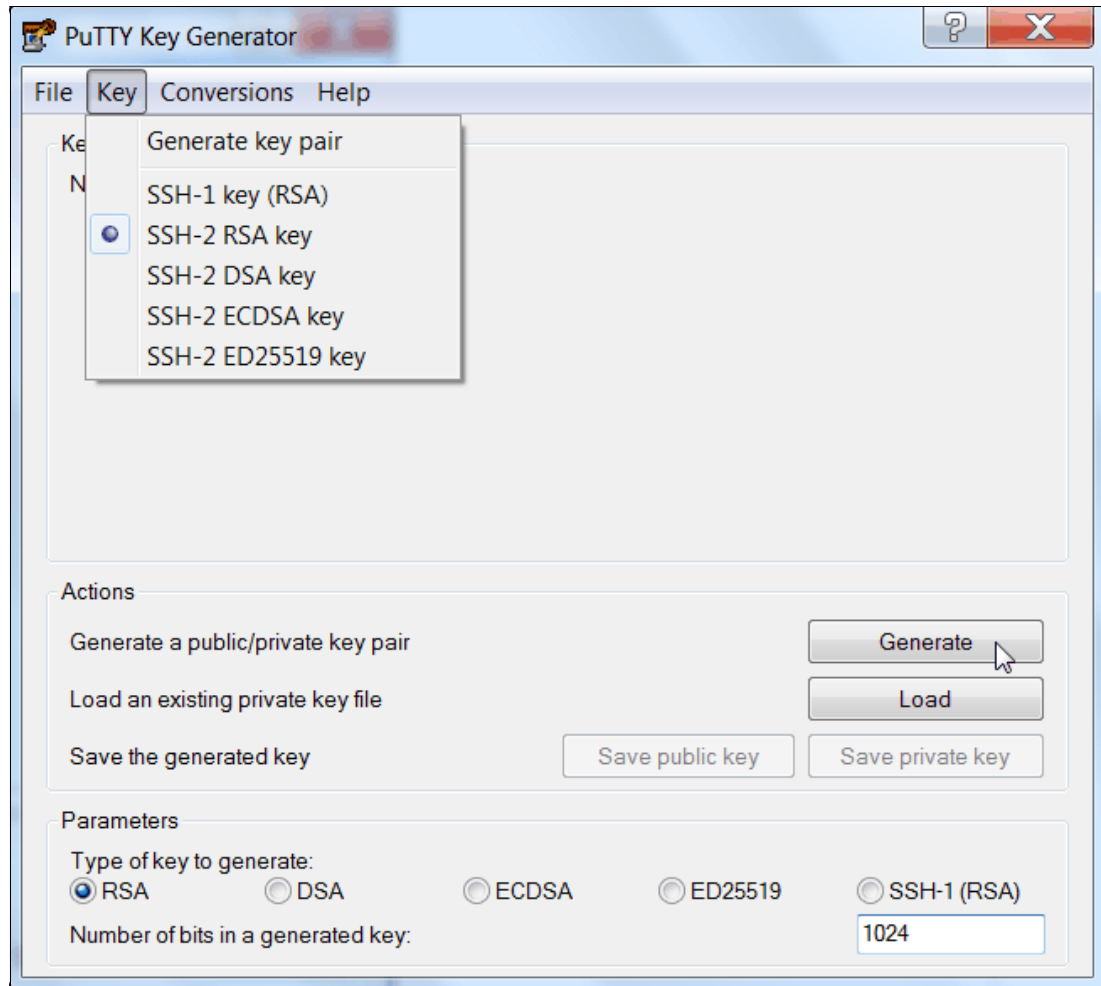

Figure A-1 PuTTY key generator
1. Start the PuTTY key generator to generate the public and private key pair (see Figure A-1).